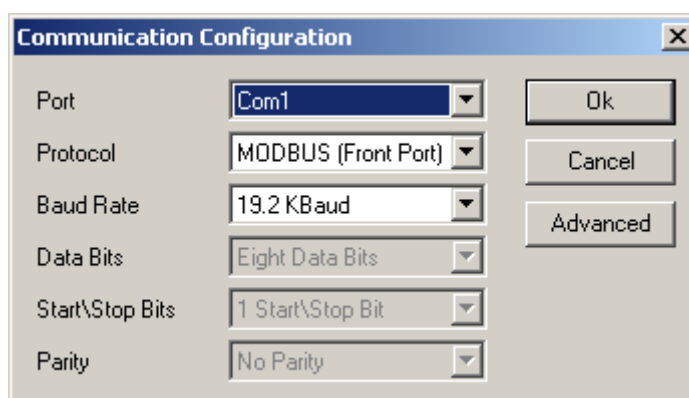

Figure 11-2 Communication Configuration dialog
1. Select **Communications > Configure**. The Communication Configuration dialog is displayed. See Figure 11-2.